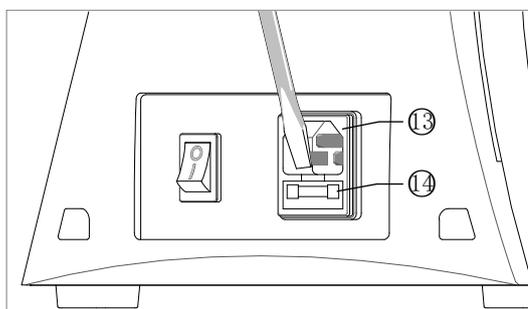

Fig.8-11
8.5.2 Remove the input socket fuse holder which behind the main body or power box (be careful not to be scratched by old fuse when with screwdriver). (Fig.8-11)